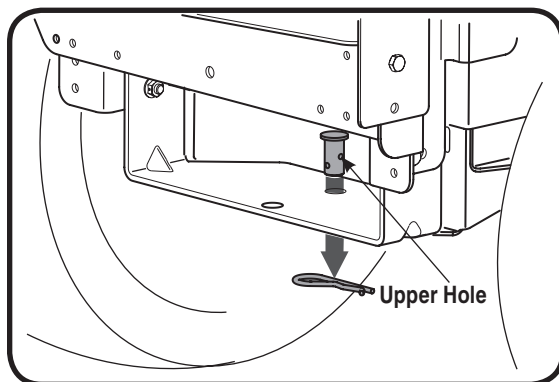

Figure 12
6. Reinsert the clevis pin through the aligned holes in both the bracket assembly and the hitch plate and secure with the hairpin clip removed earlier. See Figure 12 for reference.